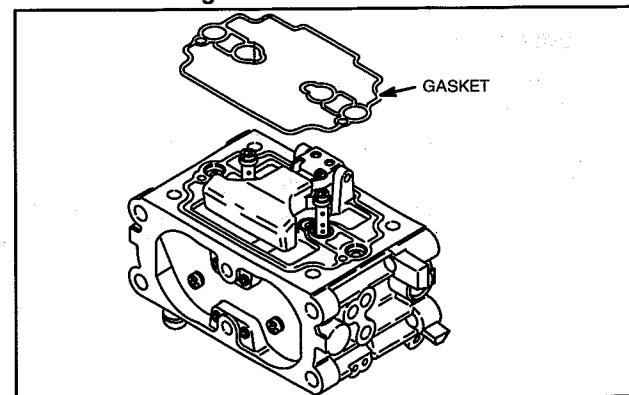

Fig. 58 – Install Gasket
- 10. Install lower body gasket, Fig. 58.